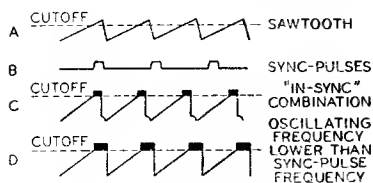

Fig. 71
across the capacitor C_2 . A portion of this sawtooth is fed back to the grid of the control tube, V_1 . The positive sync pulses are also applied to the grid of V_1 . The waveforms shown in Fig. 71 illustrate the sawtooth and sync pulses (A and B) and their proper "in-sync" combination (C). The sync pulse occurs partly during the portion of the sawtooth voltage in which the triode V_1 draws current. Any shift in sync pulse as it is superimposed
For example, waveform D in Fig. 71 illustrates a condition in which the sawtooth voltage is advanced in phase with respect to the sync-pulses. The widening of the pulse which occurs at the corner of the sawtooth waveform allows the control tube to conduct more current and, consequently, allows the capacitor C_1 to charge to a higher voltage. This increased reference voltage also appears in the grid circuit of V_2 and makes the grid more positive. The increased grid voltage then speeds up the frequency of oscillations until proper synchronization results.